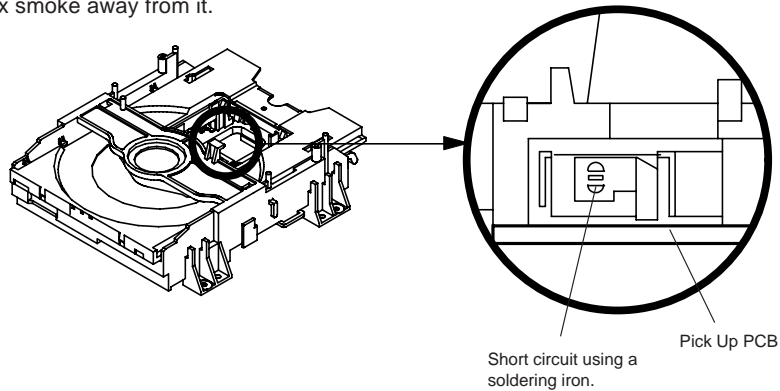

Fig. 1
1. Remove the TV/DVD/VCR block from the main unit as shown in **Fig. 1** below.